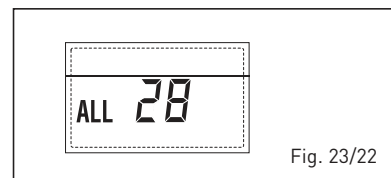

Fig. 23/22
– **ANOMALIA NUMERO SCHEDINI COLLEGATI “ALL 29”** (fig. 23/23)